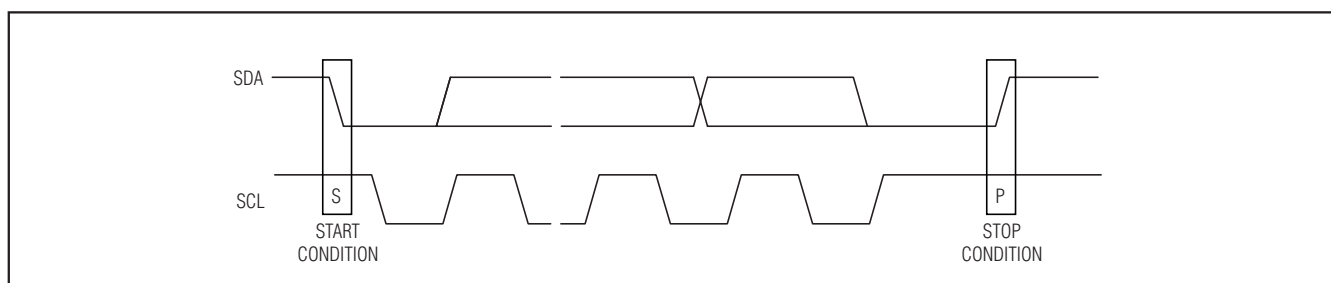

Figure 3. Standard Stop Conditions
Each transmission consists of a START condition (Figure 3) sent by a master, followed by the MAX6956 7-bit slave address plus R/W bit (Figure 6), a register address byte, one or more data bytes, and finally a STOP condition (Figure 3).
has finished communicating with the slave, it issues a STOP (P) condition by transitioning SDA from low to high while SCL is high. The bus is then free for another transmission (Figure 3).